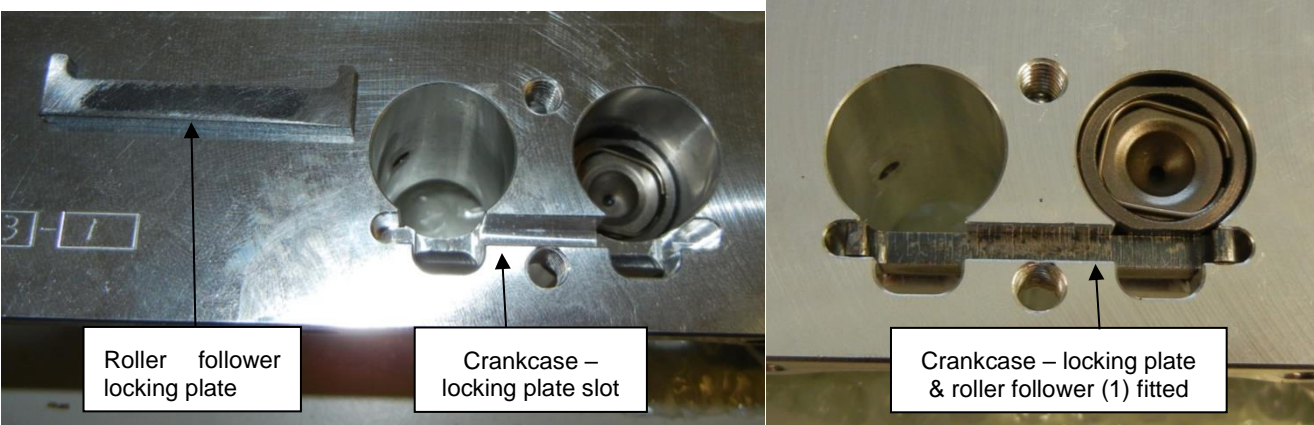

Figure 189 – Crankcase & Locking Plate
3. For engines equipped with roller cam followers the follower locking plates must be installed now – see Figure 189. This plate should be a neat fit with a small amount of clearance from the lifter. It may be necessary to lightly finish the plates before installing to remove sharp edges etc. Note the orientation of the plate when installed: the two “legs” on the plate must point out of the case.